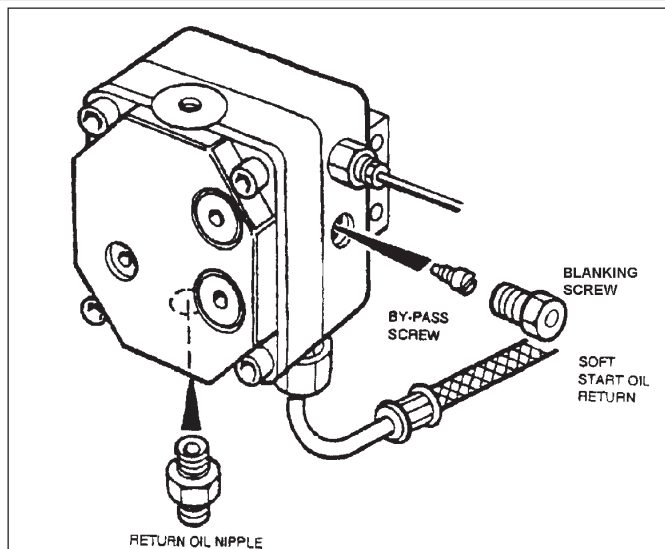

FIG. 2
COOKER BURNER ONLY - SEE FIG. 2
4. Remove return port blanking plug and fit nipple, connect as per Fig. 2.
4. Remove return port blanking plug and fit nipple pipework as in Fig. 2.